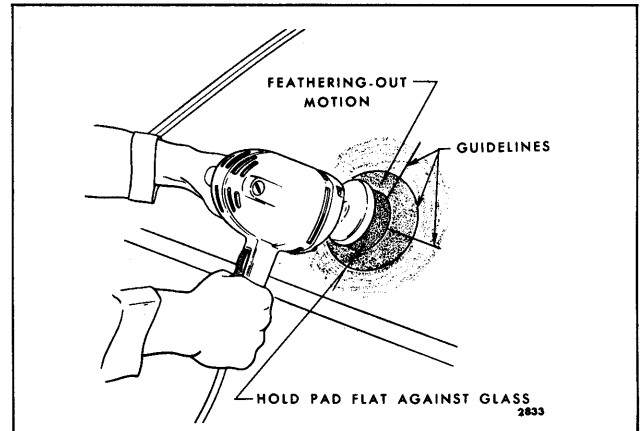

Fig. 1-10—Minor Glass Scratch Removal
3. Draw a circle around the scratches on the inside of the windshield with a marking crayon or equivalent. Draw other lines directly behind scratches to serve as guides in locating the during polishing (Fig. 1-10).
6. Using moderate, but steady, pressure, hold the pad flat against the scratched area of the glass, and with a feathering-out motion, polish the affected area as shown in Figure 1-10.
7. Cover a sufficient area around the scratch with a feathering-out motion as shown in Figure 1-10, to eliminate any possibility of a "bulls-eye".